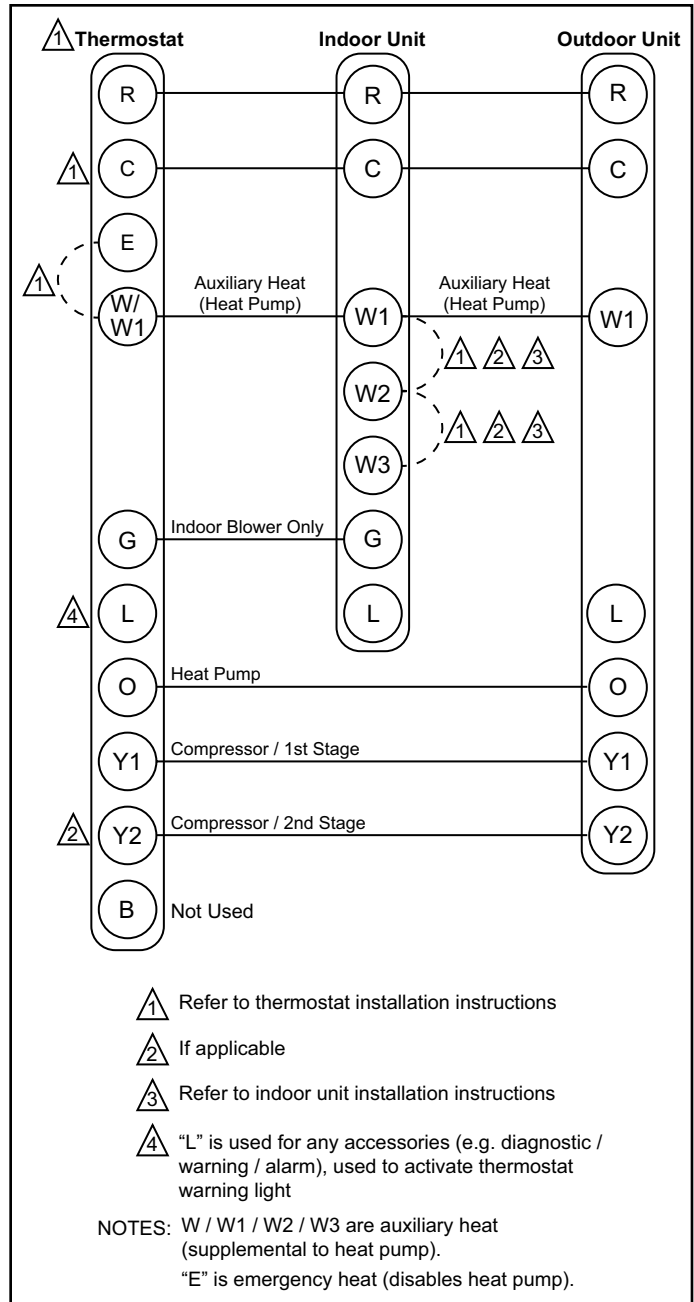

Figure 2. Thermostat Designations - Non-Communicating
- Typical unit wiring (as well as wiring of optional field-installed electric heat) is given in Figure 2. Refer to the instructions provided with the electric heat section for proper installation.